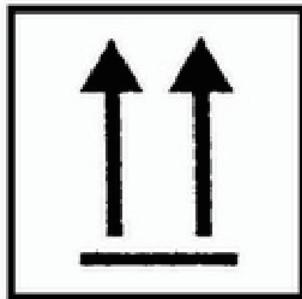

FIG 9-1
- 2、The shipment should be vertical upward, as shown in the figure 9-1.